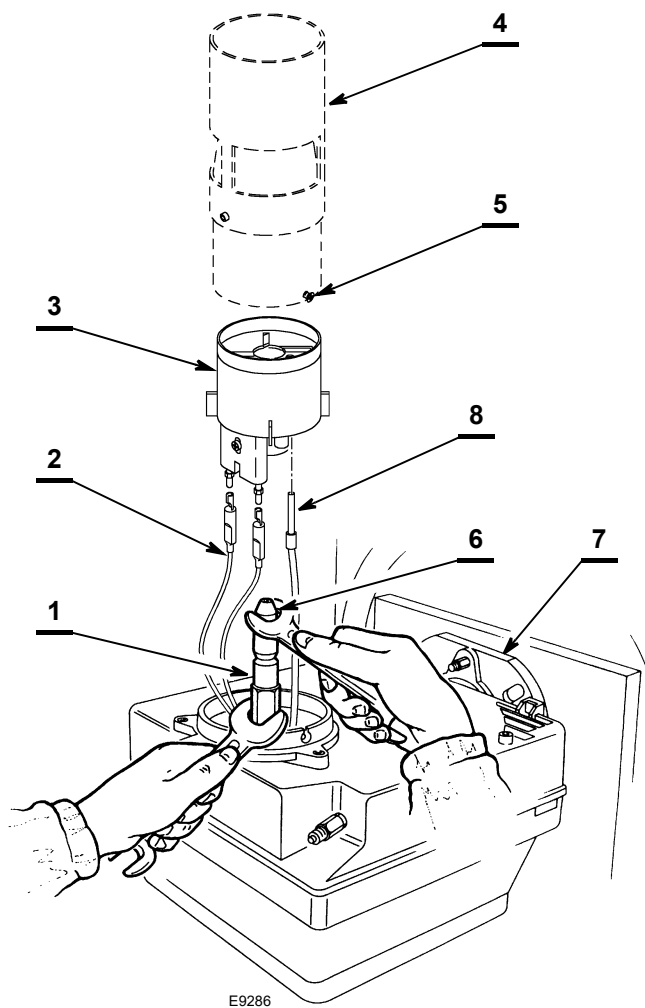

Fig. 14
- Couple the burner to the flange 7) Fig. 14, loosen the screws 5) then remove the blast tube assembly 4).
- Loosen the screw 4)(Fig. 14) and remove the diffuser disc holder assembly 3) from the nozzle holder assembly 1).
- Completely unscrew the fixing screw 4)(Fig. 14) to remove the optical fiber 8) from the diffuser disc holder 3).
- Replace and correctly screw in the nozzle 6) tightening it as shown in Fig. 14.